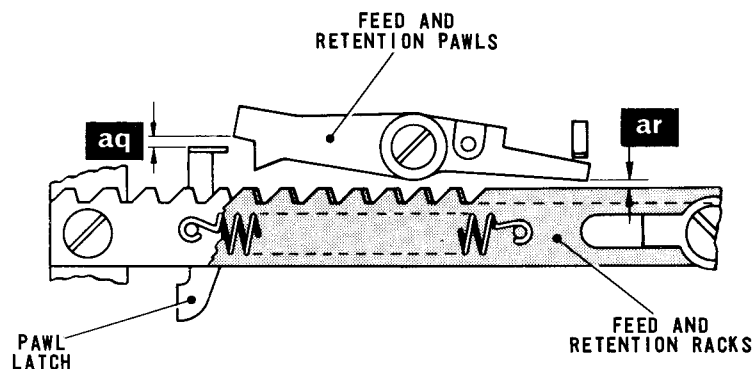

Fig. 4.35 FEED AND RETENTION RACK CLEARANCES
- 41.1 Operate the carriage return manual lever to move the typehead carriage to its extreme left-hand position. Set up the carriage return code combination (SSMS) on the pins, lift the translator clutch abutment and turn the machine by hand until the noses of the feed and retention pawls, Fig.4.35, are at their highest point. Check that the pawls are now high enough to enable the pawl latch to pass beneath their noses with a clearance of approximately .030 in. (dimension 'aq'). Check also that there is a clearance of approximately .030 in. (dimension 'ar') between the tails of the pawls and the top of the rack teeth.